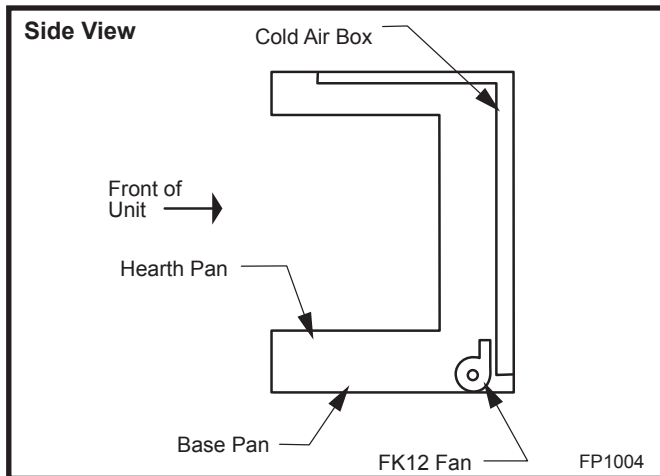

Fig. 90 FK12 Fan Kit placement.
2. Install FK12 fan in back of unit between hearth supports. (Fig. 90)